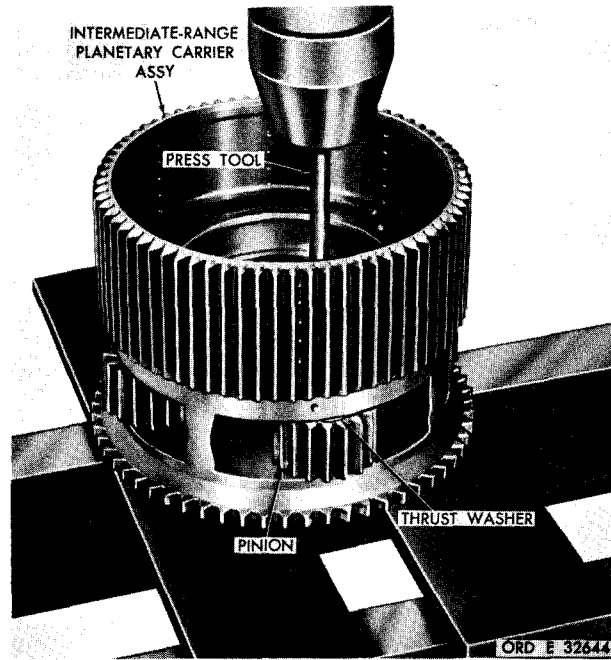

Figure 225. Removing intermediate-range planetary carrier spindle
c. Using a press and a piece of 3/8-inch drill rod approximately 6 inches long, or other suitable press tool, remove four planetary spindles from the carrier (fig. 225).
d. Remove planetary carrier pinions, spacers, thrust washers and bearing rollers from the carrier (fig. 225).